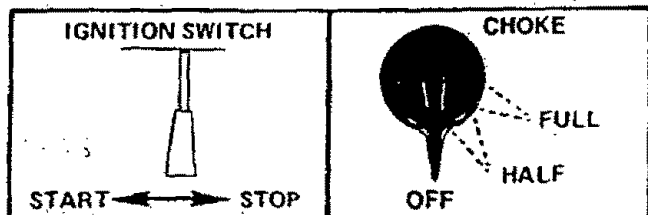

Figure 15
- b. Move ignition switch to "Start" position. Figure 15.
- f. Stop engine by moving the ignition switch to the "Stop" position. Figure 15.
- 3.) Push choke until half position is felt. Figure 15.
- 1.) Push choke to full choke position. Figure 15.